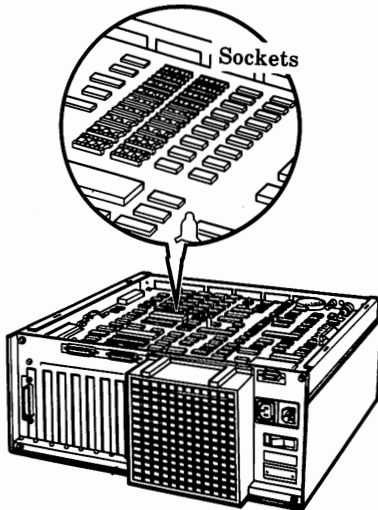

Figure 2-2. Location of the sockets on the processor board
3. Locate the sockets for the new memory chips. (You will use the last two rows of memory chip sockets on the processor board. See Fig. 2-2.)